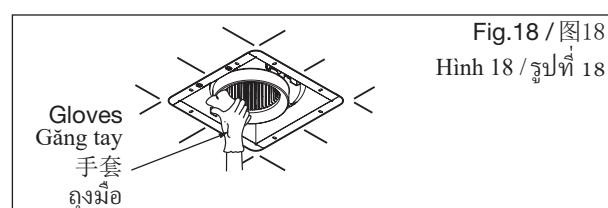

Fig.18 / 图18
④ Wipe the dust off the fan body with a soft cloth moistened with kitchen detergent, and then clear it with a clean soft cloth. (Fig.18)
再用干净软布擦净(图18)。